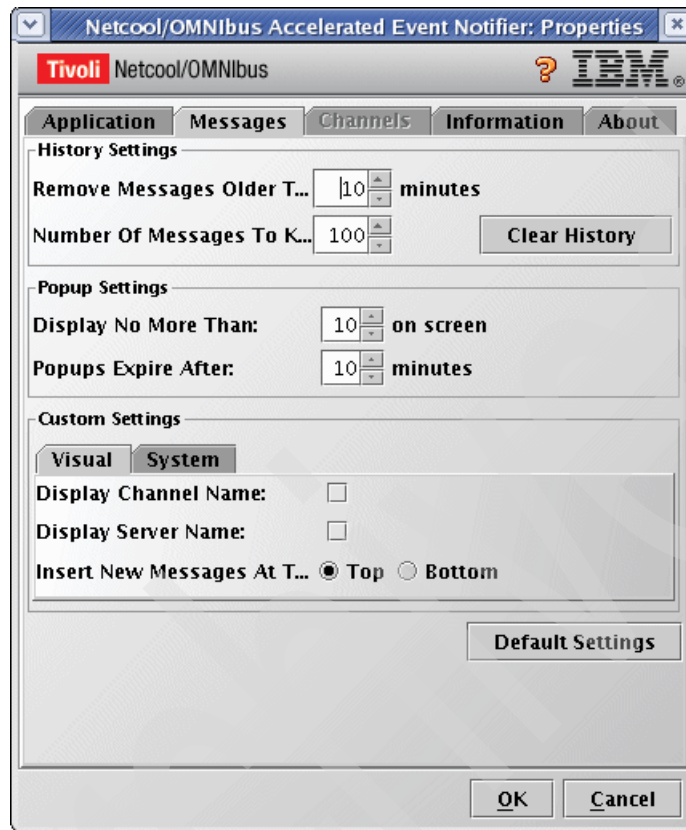

Figure 4-54 Messages tab
4. On the Messages tab, define the History Settings, as shown in Figure 4-54. The AEN Client is not configured to maintain the details of expired messages.